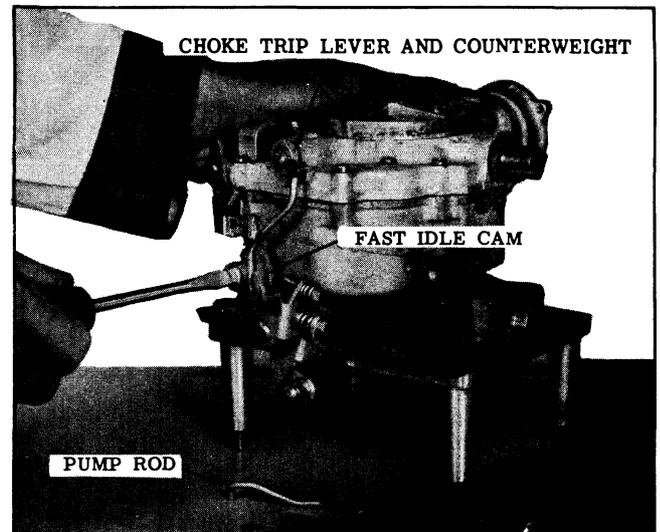

Fig. 8-123 Fast Idle Cam
5. Remove fast idle cam retaining screw. (See Fig. 8-123)